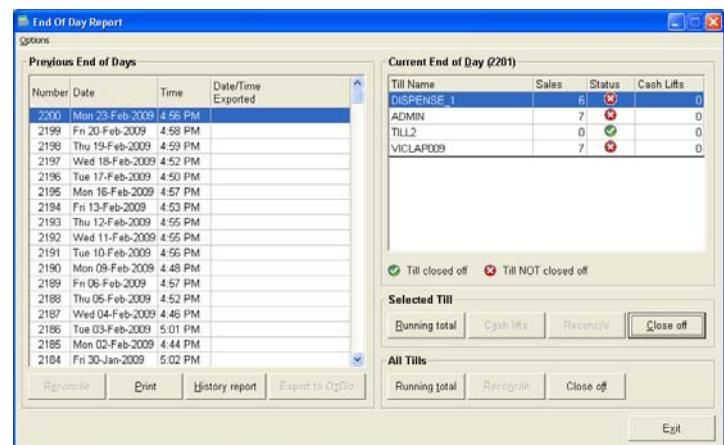

Figure 93
2. The '**End of Day Report**' screen will be displayed (see Figure 93).